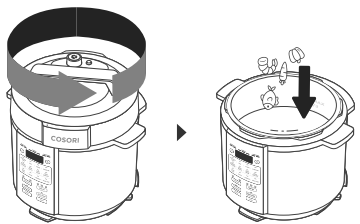

Figure 6.1
1. Twist the lid anticlockwise and lift to remove. **Do not** use the pressure cooker lid when using the **SAUTE** cooking function. [Figure 6.1]